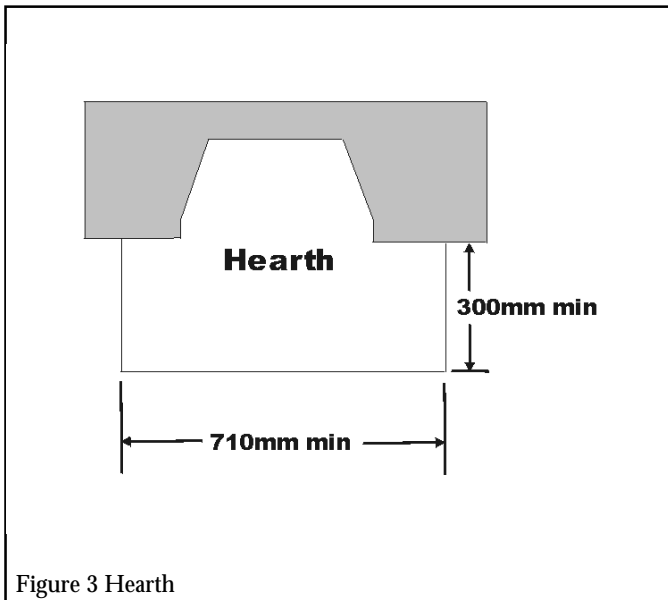

Figure 3 Hearth
2. A sheet metal flue system conforming with BS4543 or BS715, the flue diameter being a minimum of 125mm (5") (see Figure 3) with a minimum internal depth of 240mm. Incombustible mineral wool insulation of not less than 50mm thickness must be applied to the top surface of the system firebox, as shown in figure 3.
Hearth Requirements: The appliance must be mounted on a non-combustible hearth in accordance with Figure 3. The hearth material must have a minimum thickness of 12.5mm (1/2"). The periphery of the hearth (or fender) should be at least 50mm above floor level to discourage the placing of carpets or rugs over it.